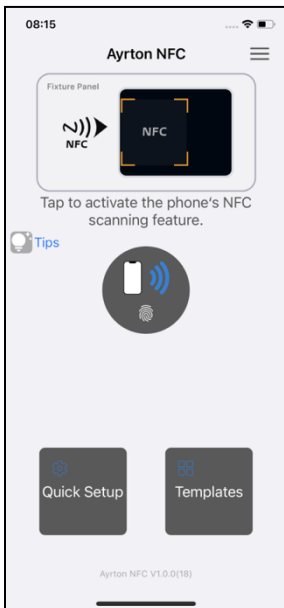
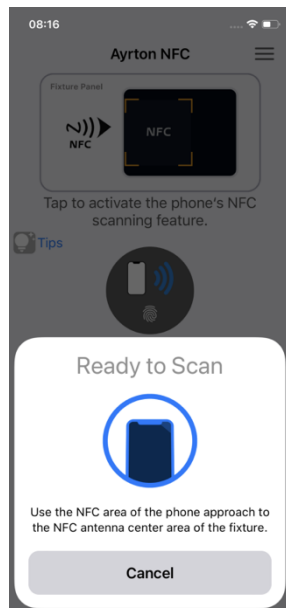
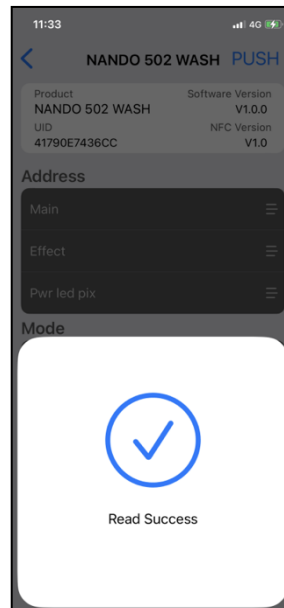

Figure 1
Figure 2
Figure 3
- 1) Open the Ayrton NFC App (as shown in Figure 1), tap the button to activate NFC scan (Figure 2), place the NFC scan area of your mobile phone close to the NFC tag area of the fixture, it will show the setting and configuration page after reading successfully (Figure 3, 4).